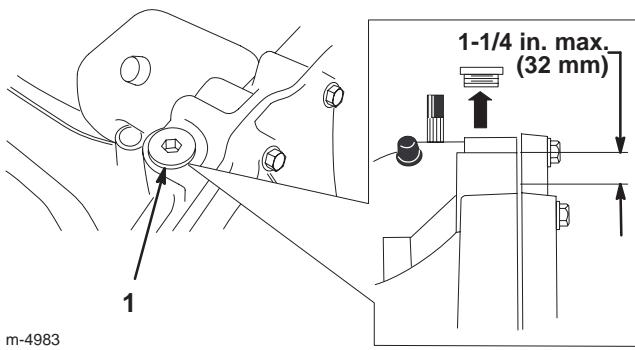

Figure 28
6. Clean around the fill plug (Fig. 28) so that dirt cannot fall into the reservoir if fluid needs to be added.
**Note:** The level should be a maximum of 1-1/4 in. (32 mm) below the top of the fill port (Fig. 28). Add oil if necessary.